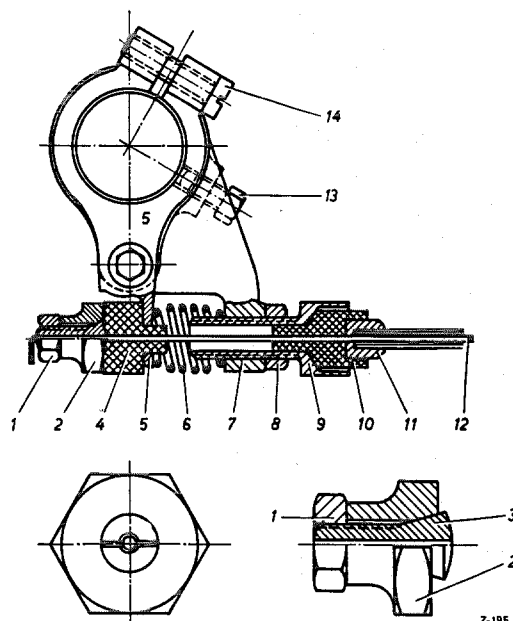

Fig. 30 — 8/3
- c) slide the rubber damping (4) and the clamping chuck (2) onto the cable as far as the timing lever (5). Then grip the cable in the clamping chuck by tightening up the hexagon nut (1) (Fig. 30 — 8/3).